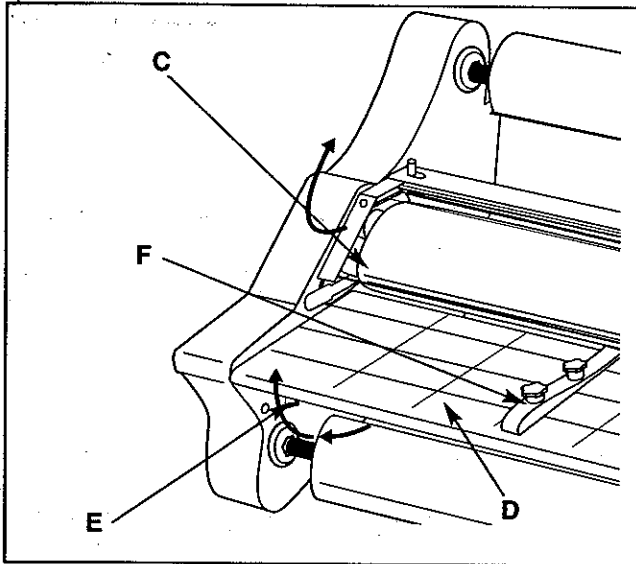

Figure 3
C. SAFETY SHIELD: (Figure 3.) Prevents inadvertent contact with the heat shoes.
D. FEED TABLE: (Figure 3.) The Feed Table is used to position items for lamination. **The laminator will operate only when the Feed Table and Feed Table Latch are properly installed.**
E. FEED TABLE LATCH: (Figure 3.) Used to lock the Feed Table into position and activate an interlock switch. The latch is located on the left underside of the Feed Table. The table cannot be removed without retracting the latch to the right while lifting the table upwards and away from the laminator. **The laminator will not operate when the table is removed and/or the latch is retracted.**
F. FEED GUIDE: (Figure 3.) The Feed Guide aligns the item(s) to be laminated and is used to keep longer items straight. The Feed Guide may also be used to feed smaller items side by side by positioning the guide towards the center of the Feed Table and placing smaller items against each side of the Feed Guide as they are being introduced into the nip point of the heat rollers. To position the adjustable guide, loosen the knob on the top of the guide, slide it to the desired position and tighten the knob to secure in place.